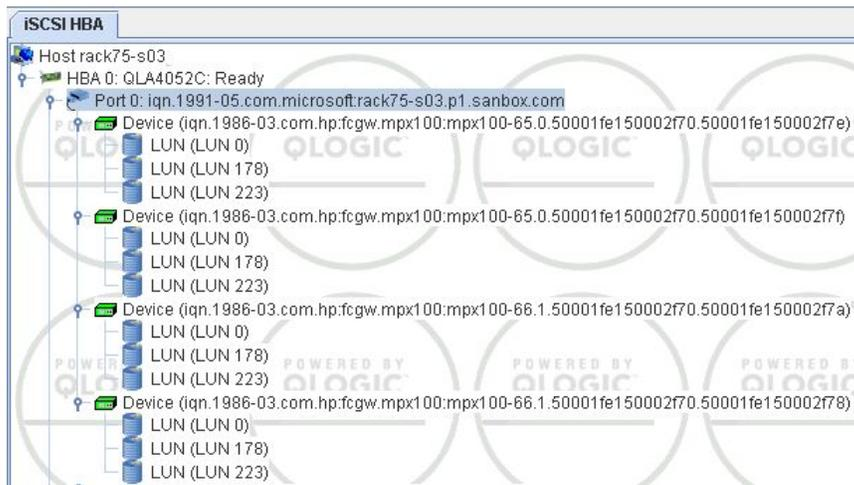

Figure 61 HBA iSCSI port connections
2. On the iSCSI HBA tab (Figure 61) verify that the QLogic iSCSI HBA is connected to the iSCSI LUNs in SMS under the HBA iSCSI port.